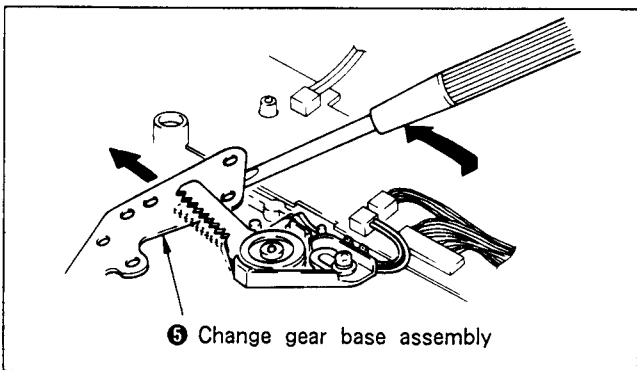

Fig. 7-44.
#### 1. Removal (See Fig. 7-44. and 7-45.)
- 3) Remove the screw ② and remove the wire clamp ①.
- 4) Remove the timing belt ③.
- 5) Remove the screw ④ and remove the change gear base assembly ⑤ with a screwdriver, etc.(See Fig. 7-44.)
- 6) Remove the flexible connector ⑥.
- 7) Remove the two screws ⑦ and remove the capstan motor assembly ⑧ in the direction of the arrow.